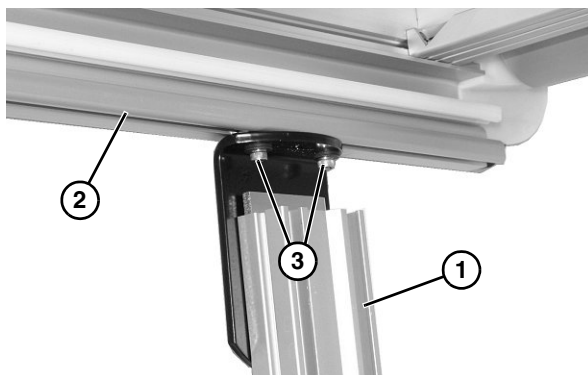

Figure 7
2. Attach stands (Figure 7, item 1) to the bottom of the conveyor frame (Figure 7, item 2). Tighten socket head screws (Figure 7, item 3), on each side, to secure in place.